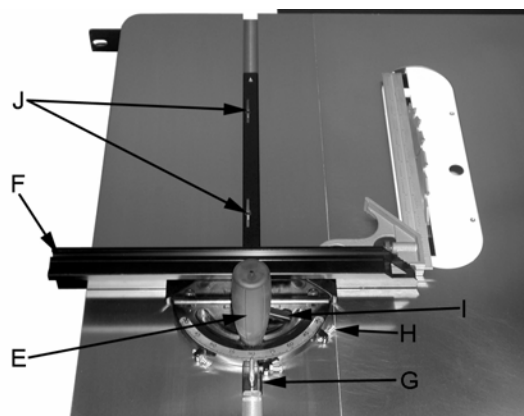

Figure 7
1. Change the angle on the miter gauge by loosening handle (E, Fig. 7) and turning the fence (F, Fig. 7) to desired angle. To move gauge beyond index stops of 45° and 90°, flip back the stop (G, Fig. 7).
2. Adjust index stops by turning one of three adjustment screws (H, Fig. 7). Use a square to verify that the fence is 90° to the saw blade, see Figure 7.
3. Slide fence to the left, or right by loosening handle (I, Fig. 7). Make sure fence does not interfere with the blade when cutting.
Note: You can adjust the play in the miter gauge by tightening the set screws (J, Fig. 7).